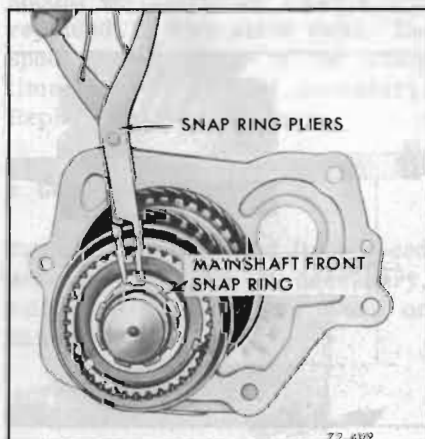

Figure 72-409—Removing Main Shaft Front Snap Ring
1. Remove mainshaft front snap ring. See Figure 72-409 and remove third-fourth speed synchronizing assembly by holding